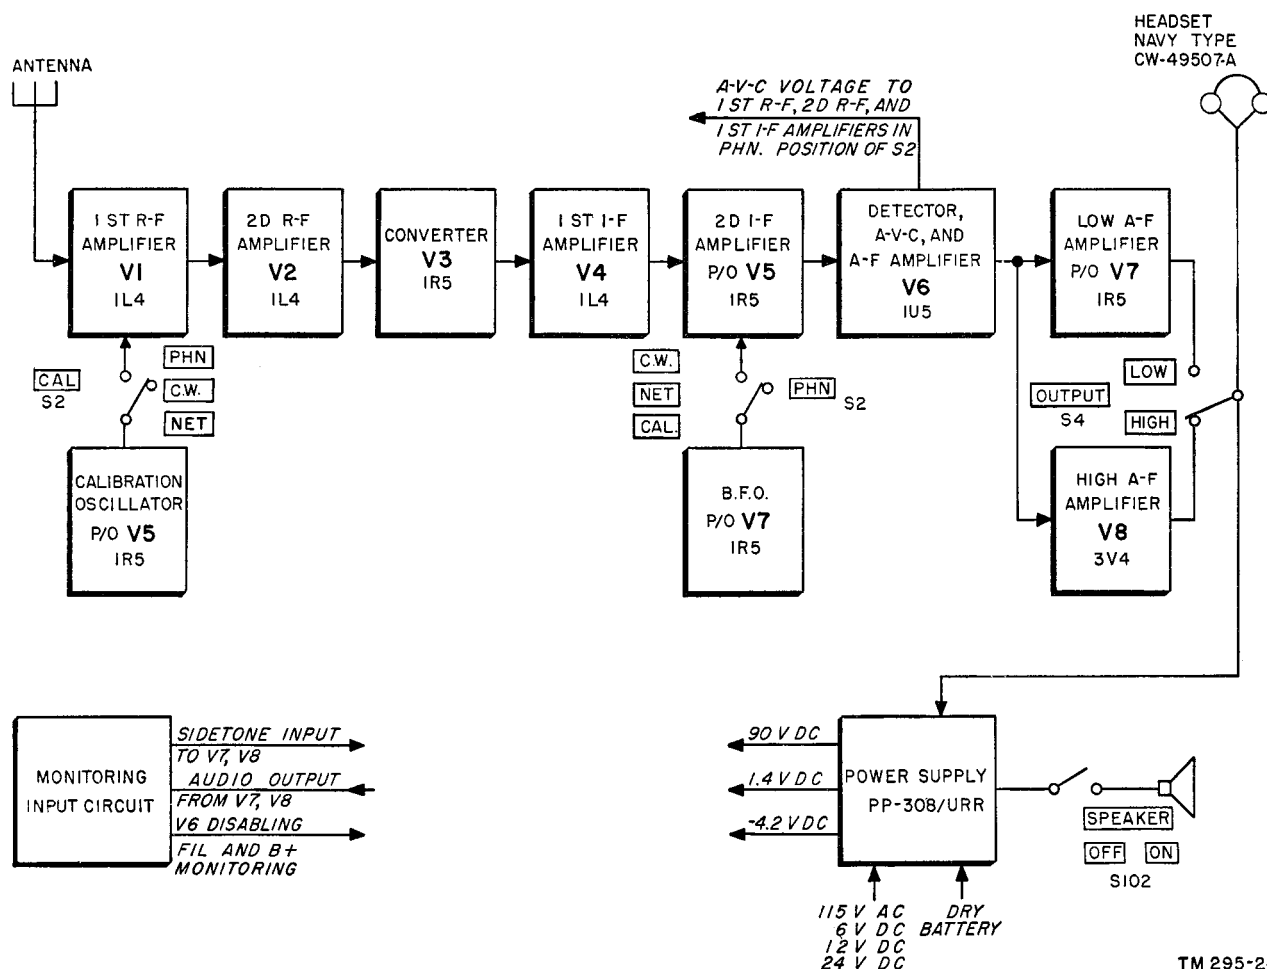

Figure 23. Radio Receiver R-174/URR, block diagram.
51. Block Diagram (fig. 23)
a. Radio Receiver R-174/URR is a portable receiver operating over a frequency range of 1.5 mc to 18 mc. Either a-m or c-w signals may be received. The signal path is shown in figure 23.